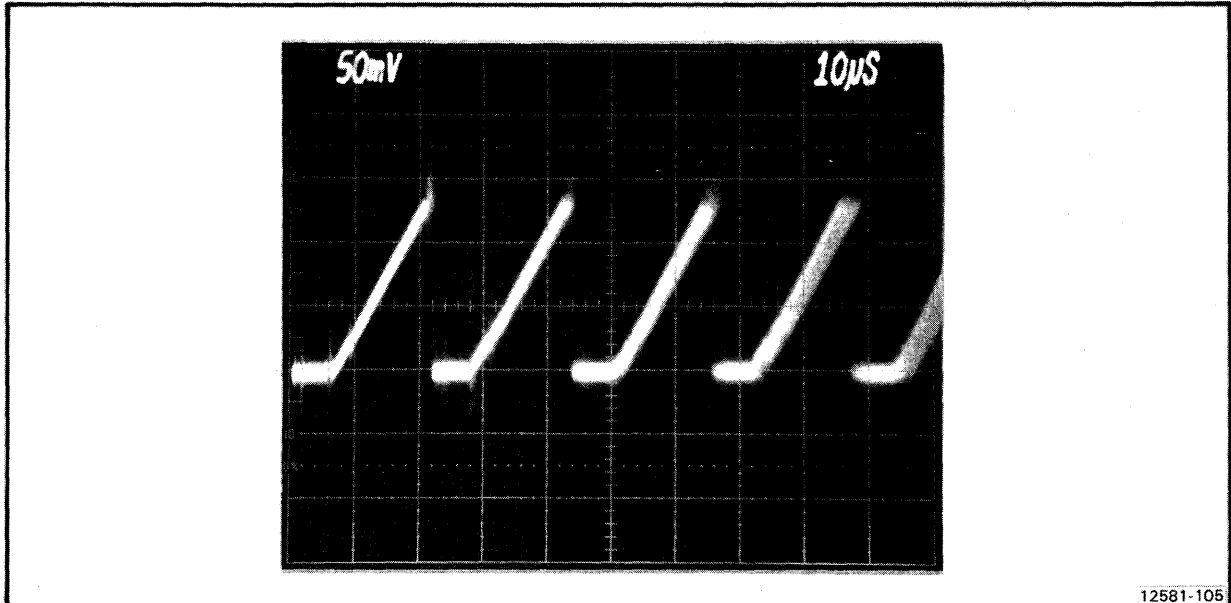

Fig. 12-12. +24 V regulator reference waveform.
22. If the supply is being brought up after a catastrophic failure in the main inverter, and the supply fails to stay on over an input voltage range of 90--132 Vrms, the +24 V secondary regulator may be regulating improperly. To check the +24 V secondary regulator, set the scope's vertical sensitivity to 50 mV/cm and change the coupling to AC. With the supply running, observe the waveform at pin 3 of U2010 on the Regulator board. If this waveform does not match the waveform in Fig. 12-12 (especially if the sawtooth is smaller or nonexistent), U5030 on the Regulator board is probably faulty and should be replaced.